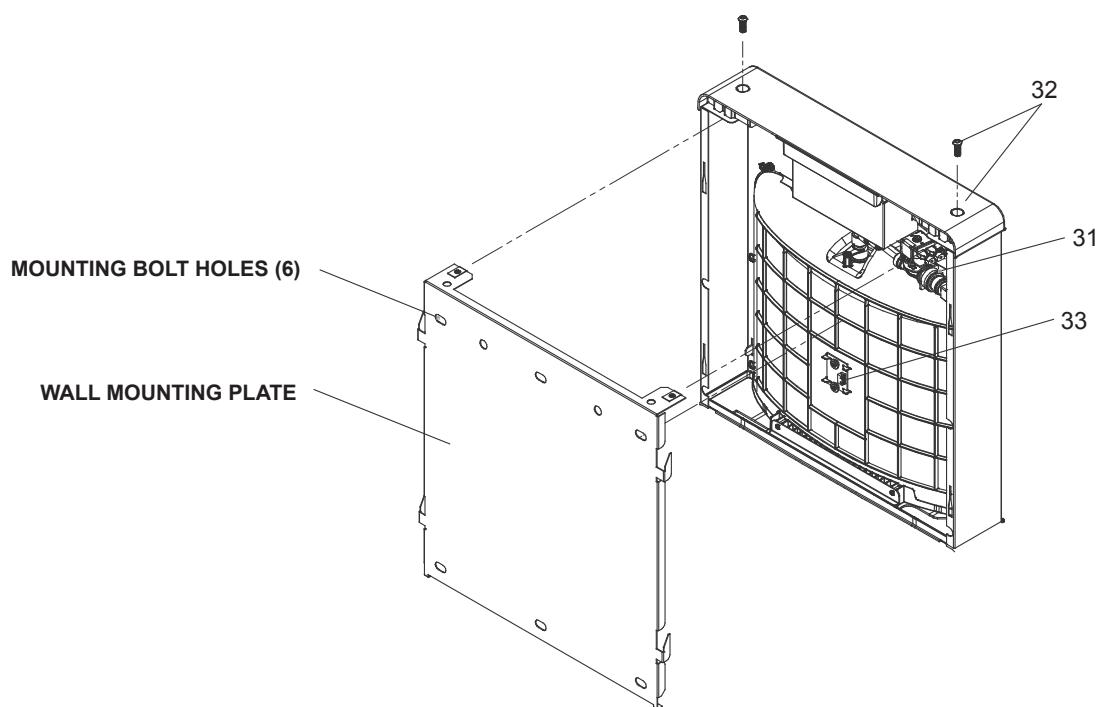

Fig. 8
8) Remove two (2) mounting screws with 5/32" Allen wrench holding bottle filler to wall mounting plate (See Fig.8, Pg. 6). Note do not discard mounting screws, they will be needed to secure bottle filler to wall mounting plate.
9) Remove wall mounting plate from Bottle Filler (see Fig 8, Pg. 6). Place wall mounting plate against wall on top of basin. Center the wall mounting plate side to side with the basin. Mark the six (6) mounting holes with a pencil. Place tape over wiring harness connection on top of cooler to prevent debris from falling into Connection.
11) Install wall mounting plate to wall using six (6) 7/16" obround mounting holes (mounting bolts not included) (See Fig.8, Pg. 6). Use appropriate fasteners for your wall type.
14) Place bottle filler on four (4) hooks on the mounting plate installed on wall. Make sure round boss in gasket fits in hole of basin. (See Fig. 8, Pg. 6).
18) Reinstall two mounting screws from first step (See Fig. 8, Pg. 6). Caution, do not over tighten screws.